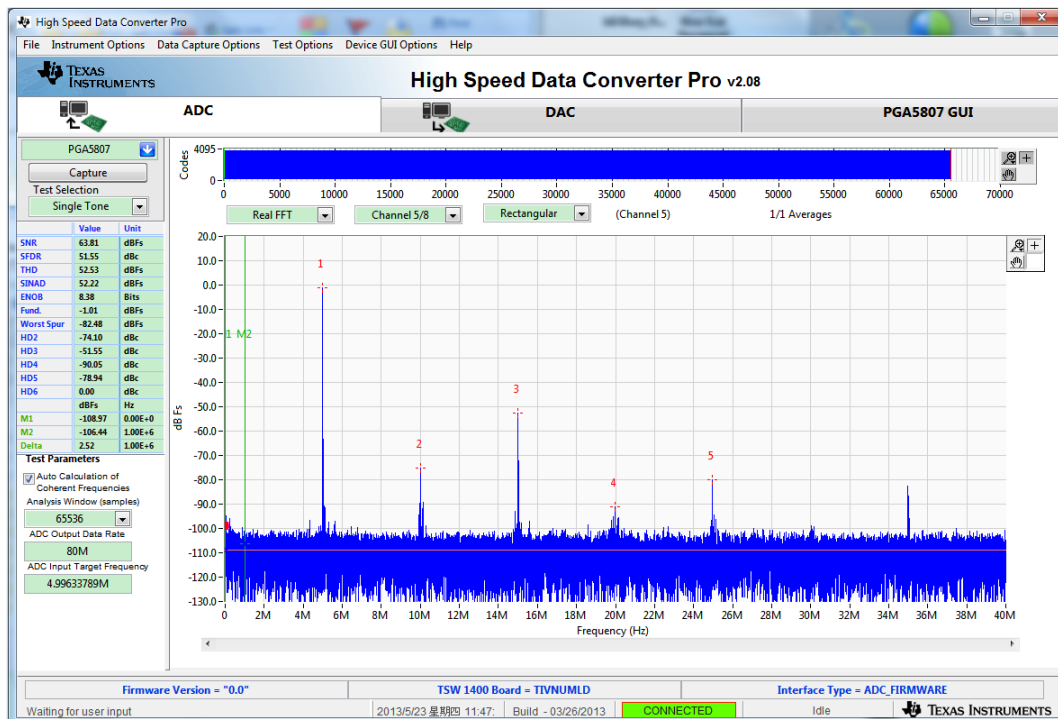

Figure 45. PGA5807A + ADS5296A SNR, THD, Gain Test Capture 1
- Click on the ADC tab and press *Capture* to see result similar to Figure 45. Take note of the *Fund.* value in the table to the left. In a similar manner to that described in Section 4.3, the input signal amplitude to the PGA5807A should be adjusted and a re-capture done iteratively until the *Fund.* value is approximately  $-1.0$  dBFs. As  $-1.0$  dBFs is the ADC level at which datasheet specifications are set, the SNR and THD of the signal chain can be taken from the table to left at this value of *Fund.*